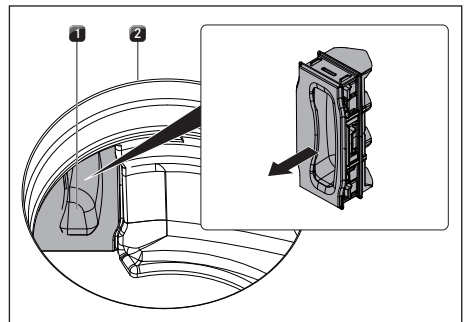

Fig. 8.4 Remove the filter replacement cover
- ▶ Inside the inlet opening pull the filter replacement cover out of the filter housing opening (to remove the filter replacement cover see Fig. 8.4).